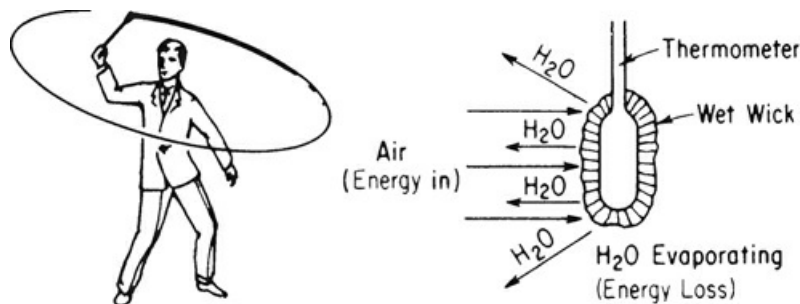

Figure 10.2 Wet-bulb temperature obtained with a sling psychrometer
- d. Wet-bulb temperature (T_{WB})** is something new. Suppose that you put a wick, or porous cotton cloth, on the mercury bulb of a thermometer and wet the wick. Next you either (1) whirl the thermometer in the air, as in Figure 10.2 (this apparatus is called a *sling psychrometer* when a wet-bulb and a dry-bulb thermometer are mounted together), or (2) set up a fan to blow rapidly on the bulb at a high linear velocity. What happens to the temperature recorded by the wet-bulb thermometer?